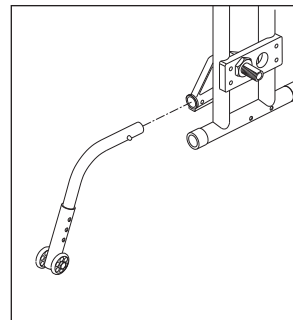

Figure 14
1. Inserting Anti-Tip Tubes Into Receiver (Fig. 14)
2. Adjusting Anti-Tip Receiver (Fig. 14)